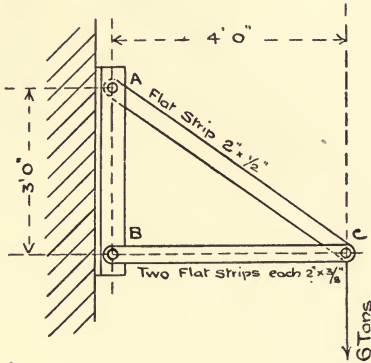

Fig. 3.
6. In the framework shewn in Fig. 3, the bars  $AC$ ,  $BC$  are freely hinged at  $C$  and hinged freely to the points  $A$  and  $B$  which are to be regarded as absolutely fixed.